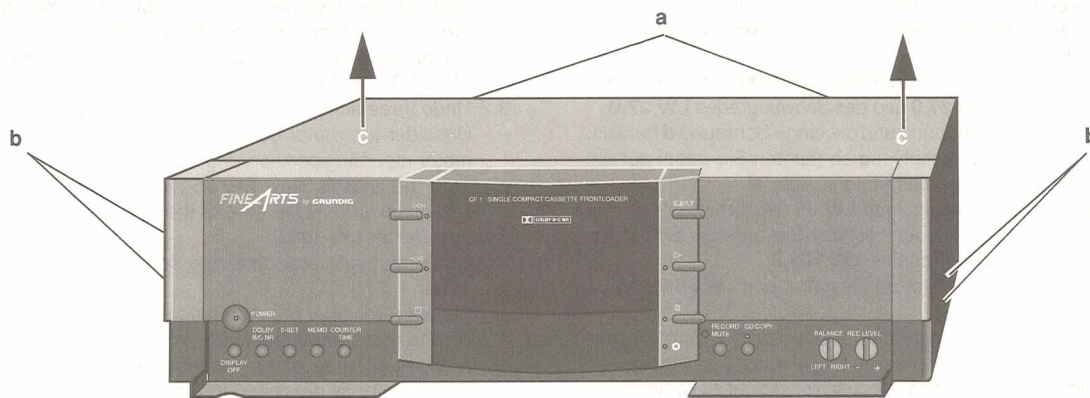

Abb. 1
1. Removal of the top of the cabinet (Fig. 1)